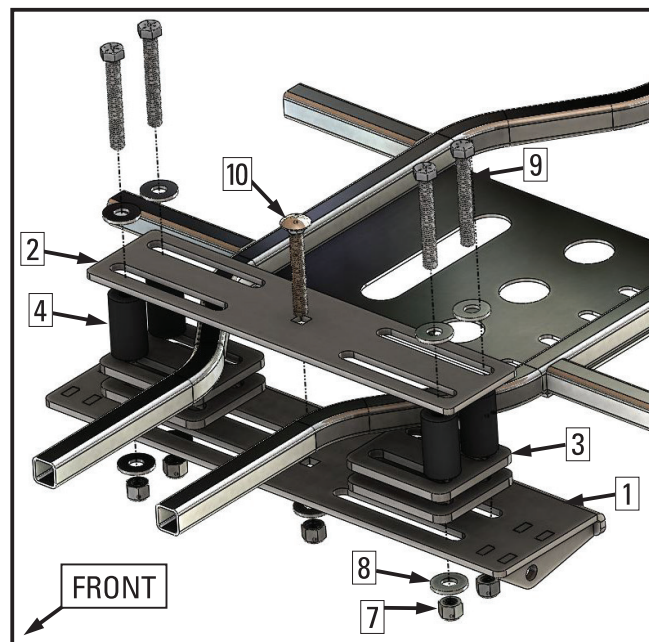

Figure 12: Sportsman Frame Installation
- 5) Loosely install the upper mount plate (2), 4 spacer plates (3) and lower mount plate (1) using the rubber spacers (4), 3/8" bolts (9), 3/8 carriage bolt (10), nuts (7), and washers (8). See Figure 12.